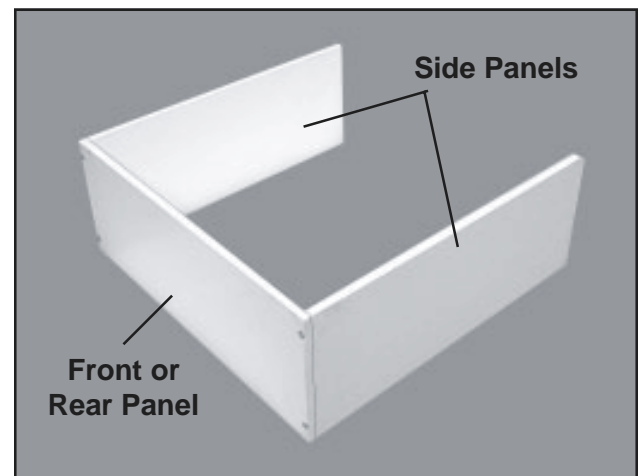

Figure 12. Adding a Third (Side) Panel
2. Join the remaining side panel to the unit above to form a three-sided assembly (Figure 12).
2. With one person holding the collar, a second person removes the four screws and trim washers holding either front or rear panel in place, and remove the panel (Figures 12 & 13).